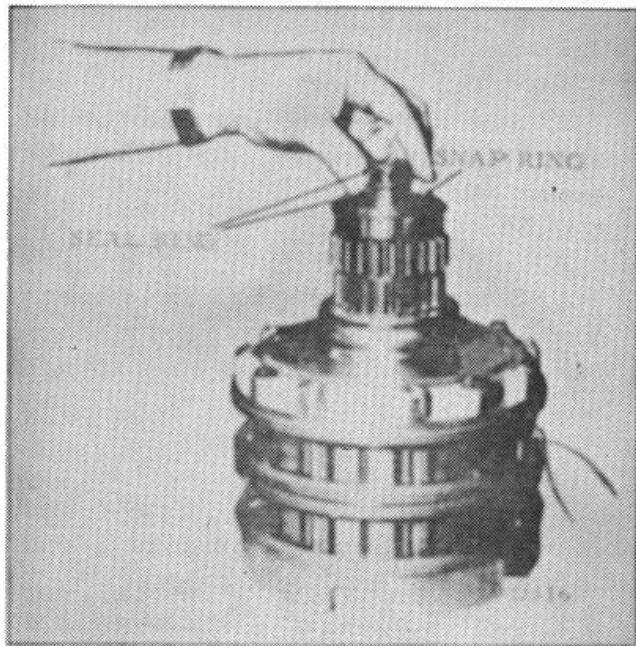

Figure 34.
14. Secure the output gear. with a snap ring. Carefully work the seal rings onto the reverse shaft. (Fig. 34) Remove the wires from the clutch pack.